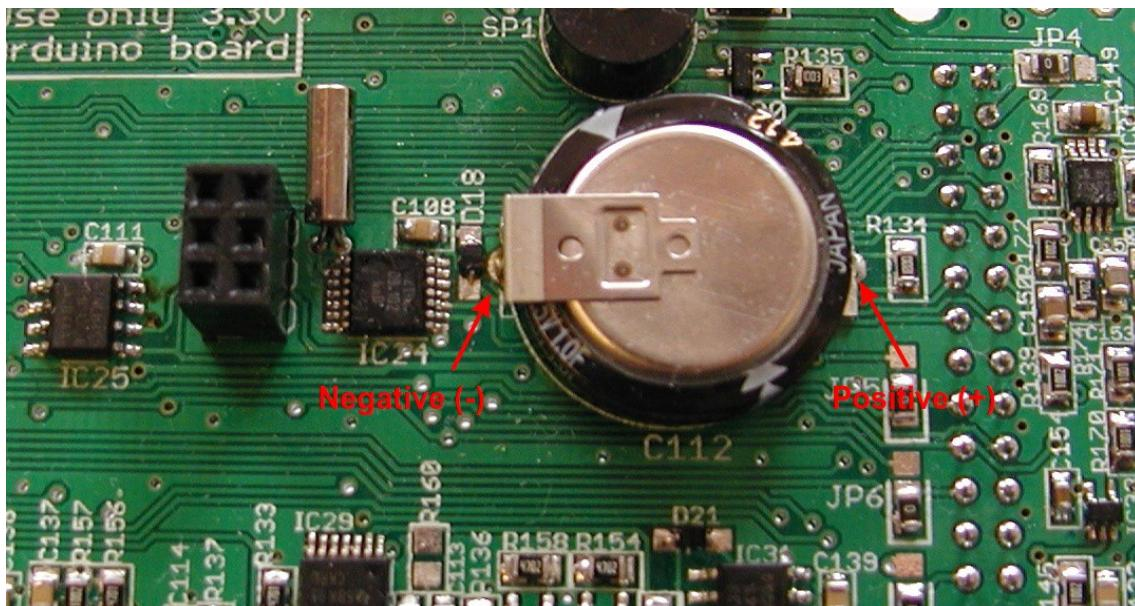

Fig. 5: Placement of the supercap which backs up the RTC chip – note the polarity, which must be correct.
- The super capacitor is polarized, as are the electrolytic capacitors and the battery cell. Make certain all these are properly oriented, at least twice, before installing them! (see Fig. 5)